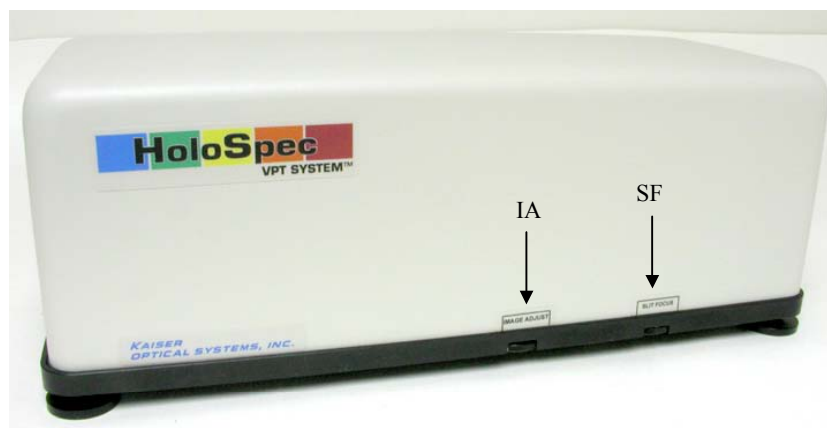

Figure 4.8. Locations of the image adjust thumbwheel (IA) and the slit focus thumbwheel (SF).
4. Adjust the slit focus thumbwheel (SF in Figure 4.8) until the sample is focused in the detector. Note that because the image of the sample will be dispersed in the horizontal direction, the spectrograph should be focused so that the vertical extent of the image of the sample is minimized.
6. Adjust the image adjust thumbwheel (IA in Figure 4.8) until the signal level observed on the detector is maximized.